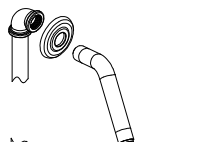

Fig. 5
- Install tub spout and shower assembly (see Fig. 5).